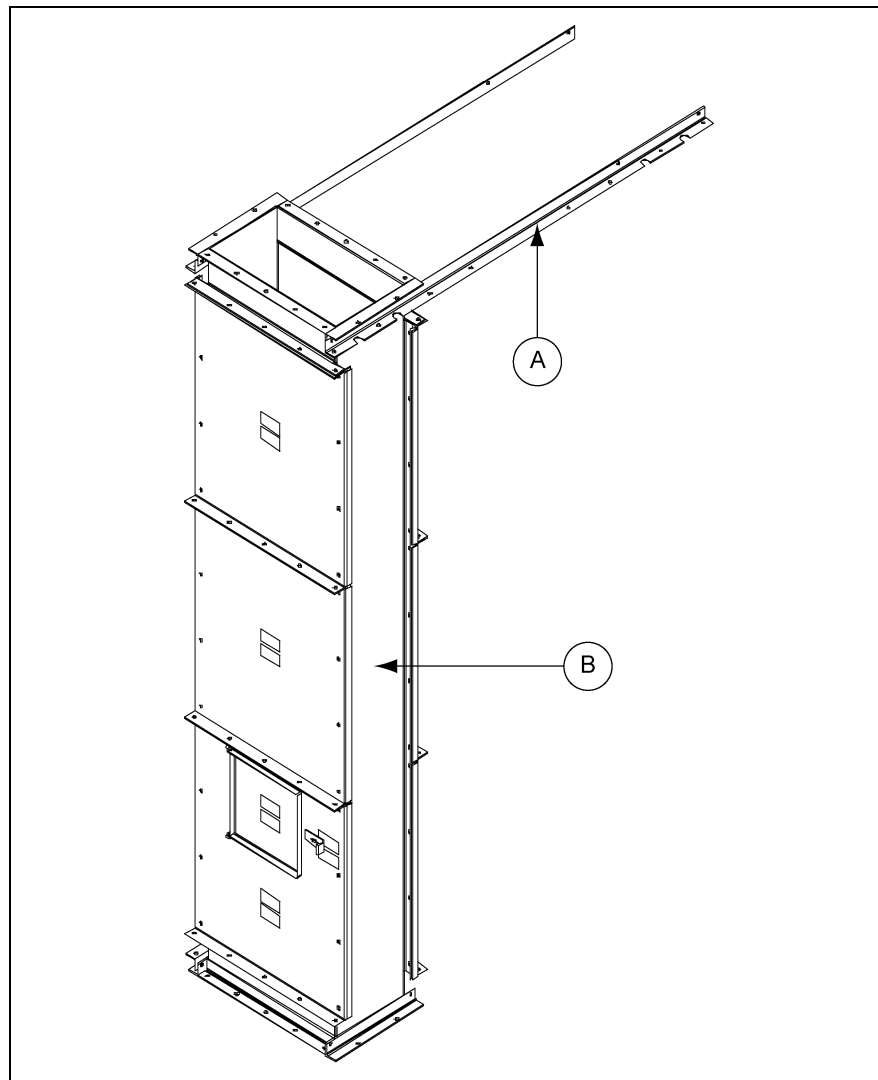
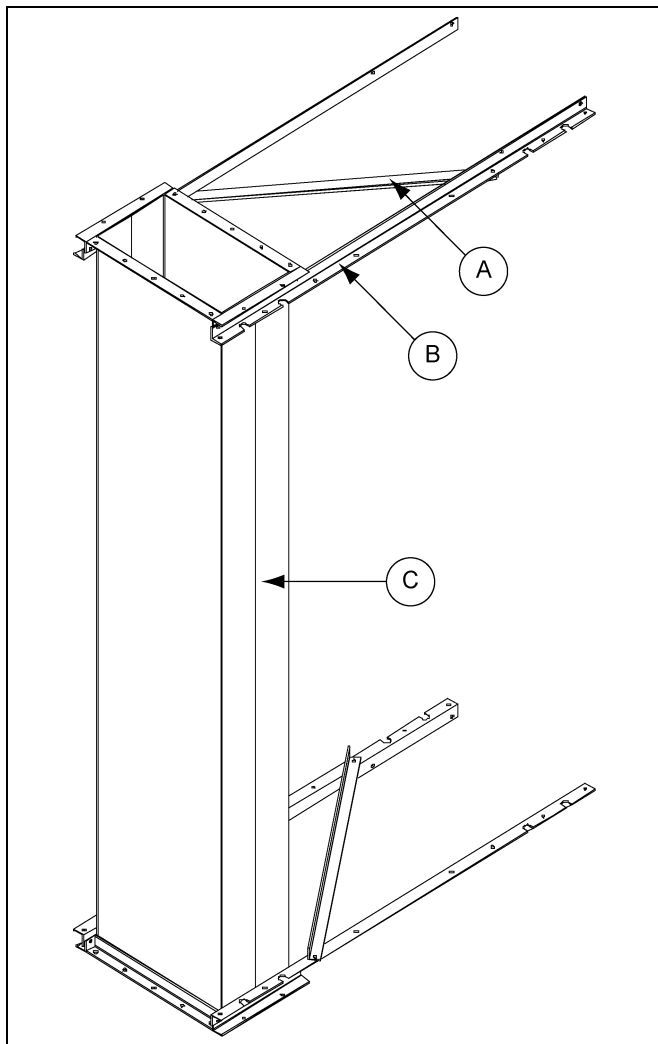

Figure 6B *Inspection Section*
Figure 7A Painted Trunking
NOTE: *Along with the inspection section, you will receive installation hardware and two (2) tie angles. Units containing 42" diameter pulleys and larger, will include a cross tie on the legs, which will be included. (See Figure 6B below and Figure 7A on Page 24.)*